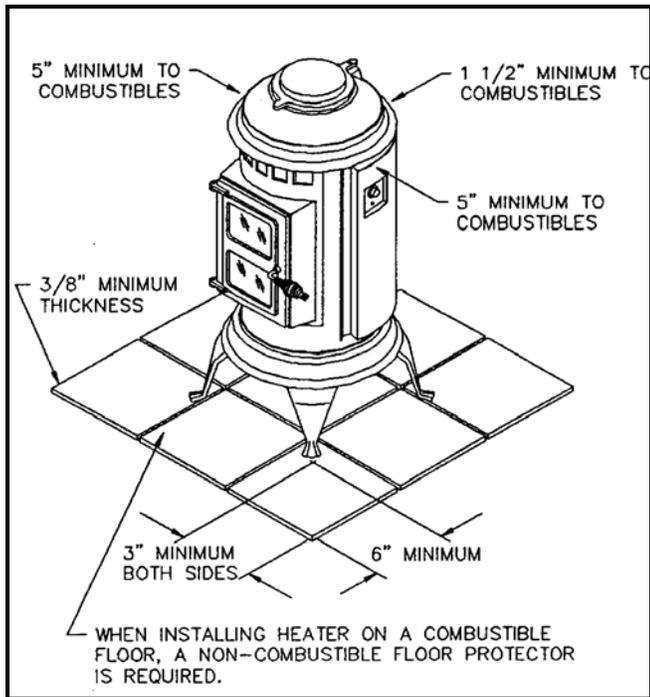

FIGURE 4
4. A non-combustible hearth pad must be used if installed on a carpet, wood floor, or other combustible material (see Figure 4).
5. Keep front door of appliance thirty-six (36) inches from combustibles (drapery, furniture).